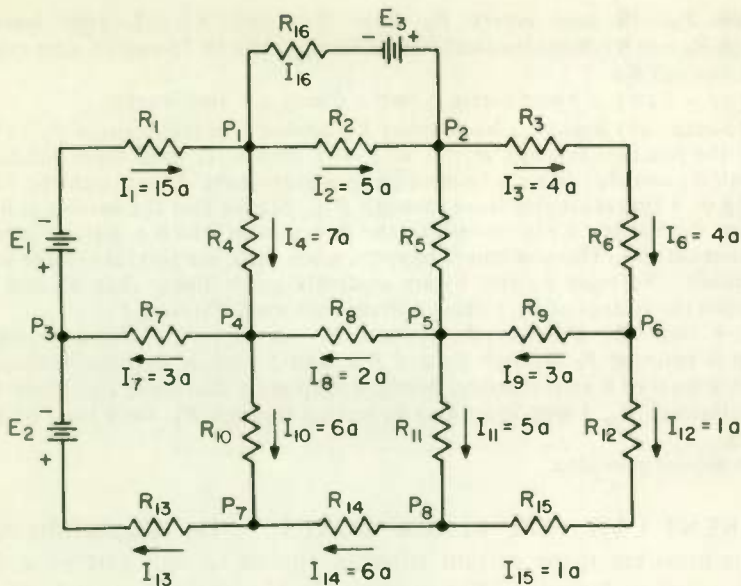

Fig. 8
4. Show that the sum of the currents entering P_4 in Fig. 8 is equal to the sum of the currents leaving.
5. The current through R_{16} in Fig. 8 is (a) _____ amp, and its direction of flow is toward the (b) *(right)* *(left)*.
6. The current through R_5 in Fig. 8 is (a) _____ amp and its direction is (b) *(up)* *(down)*.
7. Study other junction points in Fig. 8 and verify that in every case the total current leaving equals the total current entering.